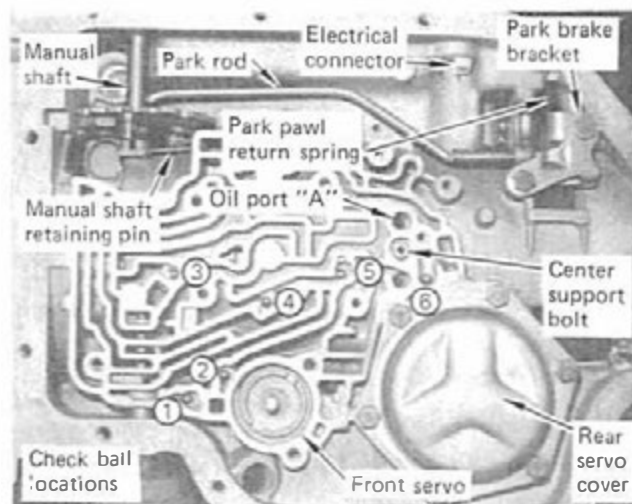
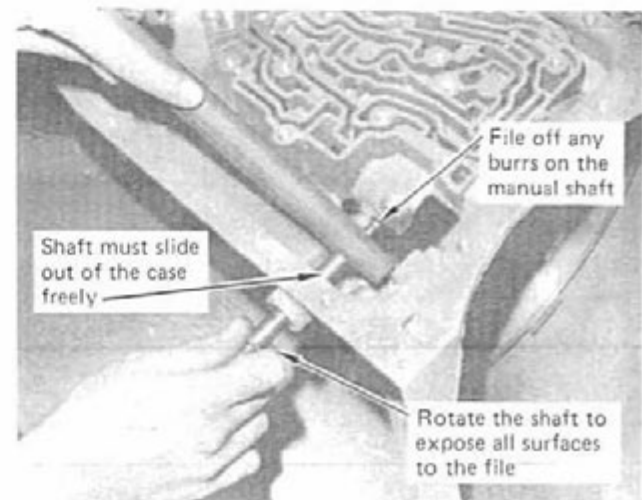

FIGURE 7
FIGURE 15
STEP 5. Remove two bolts which hold the detent solenoid in place. Set the detent solenoid with the valve body. Discard the solenoid gasket. **NOTE:** Square can solenoids do not have a gasket. Remove and discard both valve body gaskets and separator plate. Remove six 1/4" steel balls from the case and set them with the valve body. (See Fig. 7)
STEP 6. Remove front servo assembly by grasping front servo piston pin and pulling entire assembly from case. (See Fig. 7) You will remove: Pin, piston, washer or C-clip, spring retainer and spring. (See Fig. 52 & 53) Put these parts in the oil pan so they won't be lost. Remove and discard piston seal ring if it is metal. Do not remove teflon seal ring.
STEP 7. Remove six rear servo cover bolts. (See Fig. 7) Remove servo cover. Remove servo by pulling straight out. If the servo sticks tap on the side with a screwdriver handle
STEP 11. Remove center support bolt. (See Fig. 7) Use a 3/8" 12-point socket. Put bolt in oil pan. Also remove electrical connector. Remove and discard O-ring. Put connector in oil pan.
STEP 18. Remove park brake bracket bolts and bracket. (See Fig. 7) Remove the park pawl return spring and bracket. Remove park rod. Remove manual shaft retaining pin (nail). Loosen inside detent lever nut and slide manual shaft out of case. Note: Be sure to file off any burrs that may be on the manual shaft before trying to remove it. If you scratch the bore it will leak. (See Fig. 15) The shaft should slide out freely. If the manual shaft has O-rings on it, discard them. Put linkage parts in the oil pan.